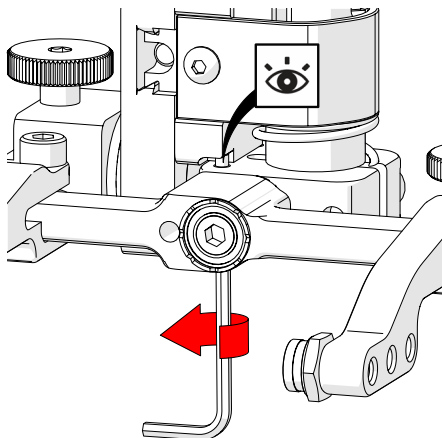

Fig. 148 - Raise opposite 90° stop post
8. Raise the stop post on the opposite side until the side of the post contacts the 90° stop point on the probe holder's base (Fig. 148).